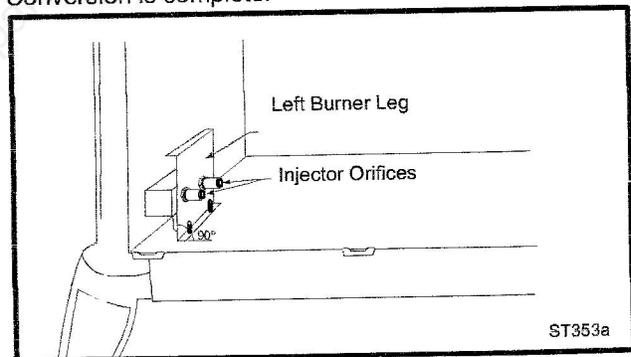

Fig. 55 Remove and replace injector orifices.
8. Remove injector orifices from left burner leg using 1/2" wrench. (Fig. 55)
NOTE: It is very critical to keep the left burner leg, which holds the injectors, at a 90° angle to the base. (Fig. 55) This keeps the orifices aligned with the tubes inside burner. Failure to do so could affect the flame appearance and performance of the unit.